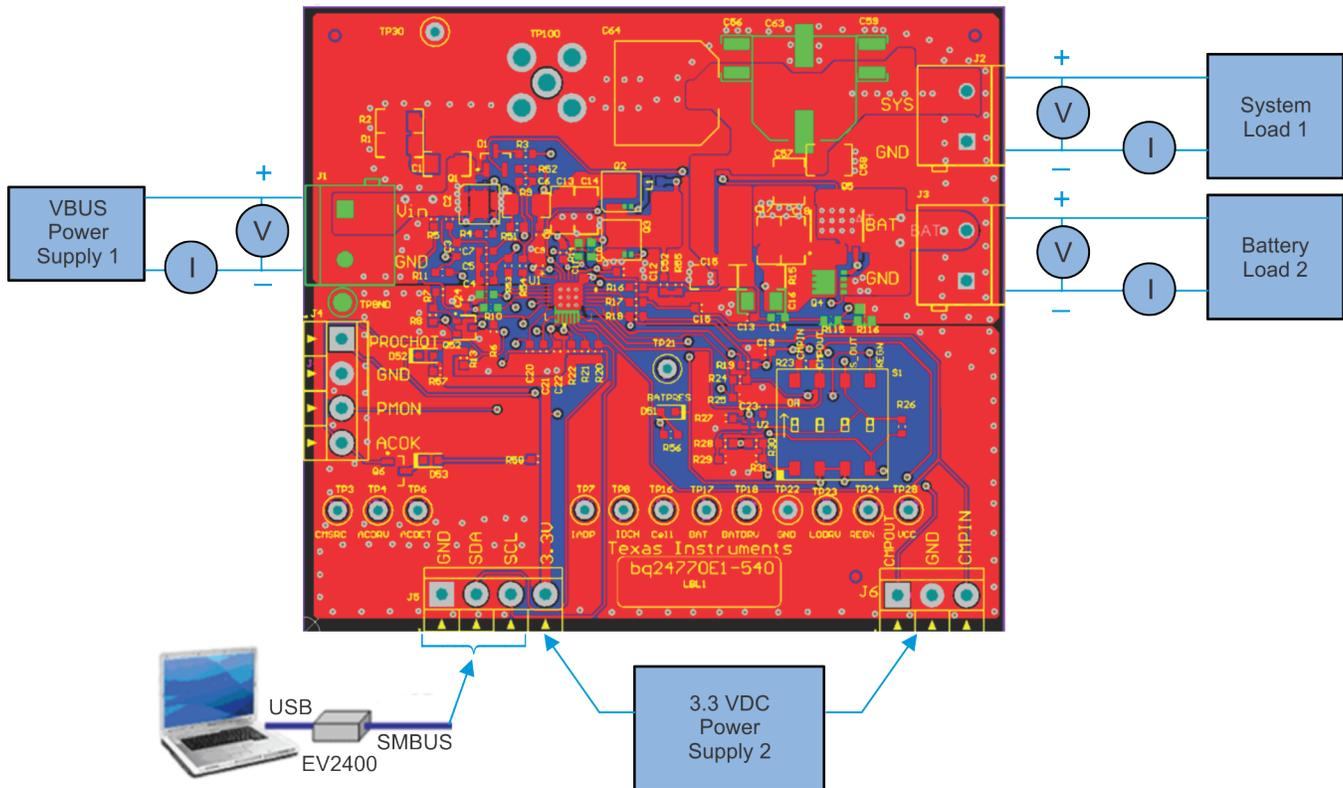

Figure 3. Original Test Setup for PWR540 (bq2477xEVM)
2. Connect the positive lead for PS#1 to J1-Vin and the negative lead to J1-GND via a current meter as shown in Figure 3.
3. Turn on the power of the Load #1. Set the load current to 1.0 A \pm 50 mA but disable the output. Connect the output of the Load #1 in series with a current meter (multi-meter) to J2 (SYS, GND). Make sure a voltage meter is connected across J2 (SYS, GND). Turn on Load #1. The setup is now like Figure 3 for PWR540.